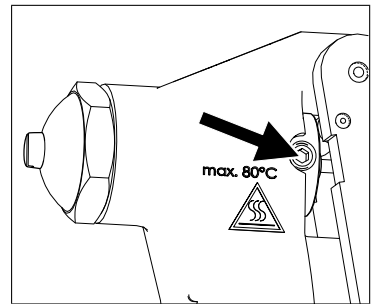

Fig. 15: Threaded pin
2. Turn the guide sleeve until the threaded pin is positioned in the gap between the trigger and the gun body (see Fig. 15 on page 36).
2. Turn the guide sleeve until the threaded pin is positioned at the recess of the gun body (see Fig. 15 on page 36).